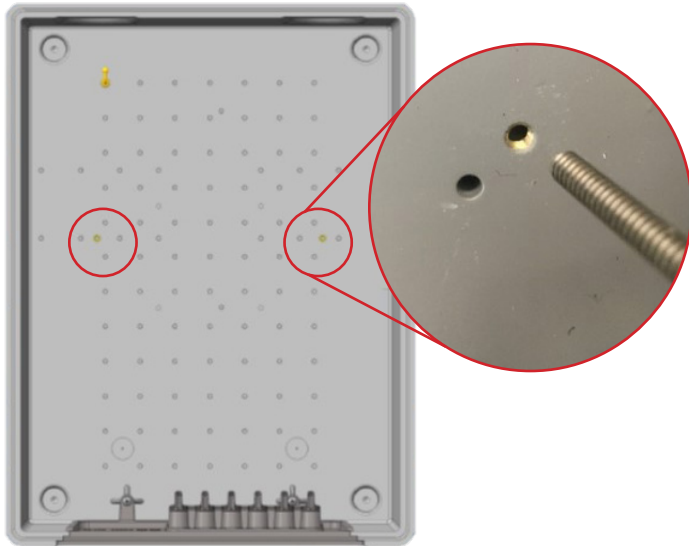

Figure 3
3. Place the two threaded rods (screw in) into pems, located in base of wall box. (Figure 3)